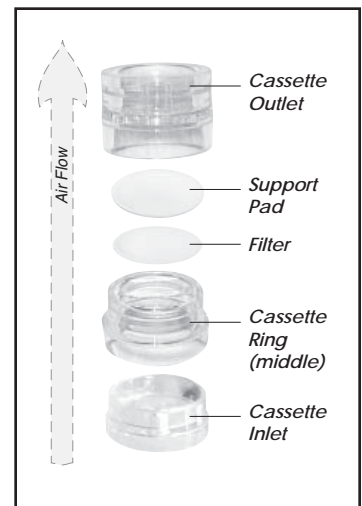

Figure 1. Filter assembly
1. Preparing the Filter Cassettes — See Figure 1
The filter cassette blank holds the filter securely in place during sampling. The cassette consists of an inlet section, an outlet section, and possibly a middle ring or extension cowl. The cassette with all three sections can be used with the inlet in place (closed face) or with the inlet removed (open face) depending on the sampling method. The filter is assembled as described below and as shown in Figure 1.